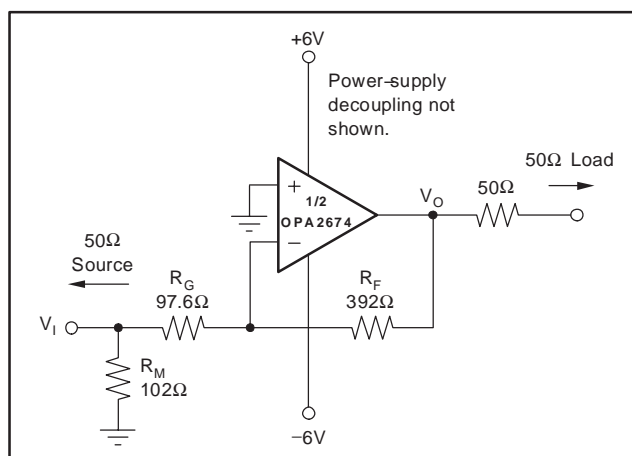

Figure 12. Inverting Gain of -4 with Impedance Matching
As the OPA2674 is a general-purpose, wideband current-feedback op amp, most of the familiar op amp application circuits are available to the designer. Those dual op amp applications that require considerable flexibility in the feedback element (for example, integrators, transimpedance, and some filters) should consider a unity-gain stable, voltage-feedback amplifier such as the OPA2822, because the feedback resistor is the compensation element for a current-feedback op amp. Wideband inverting operation (and especially summing) is particularly suited to the OPA2674. Figure 12 shows a typical inverting configuration where the I/O impedances and signal gain from Figure 1 are retained in an inverting circuit configuration.
The second major consideration is that the signal source impedance becomes part of the noise gain equation and has a slight effect on the bandwidth through Equation 15. The values shown in Figure 12 have accounted for this by slightly decreasing R_F (from the optimum values) to reoptimize the bandwidth for the noise gain of Figure 12 ($NG = 3.98$). In the example of Figure 12, the R_M value combines in parallel with the external 50Ω source impedance, yielding an effective driving impedance of $50\Omega \parallel 102\Omega =$
33.5Ω. This impedance is added in series with R_G for calculating the noise gain—which gives $NG = 3.98$. This value, and the inverting input impedance of 22Ω, are inserted into Equation 16 to get the R_F that appears in Figure 12. Note that the noninverting input in this bipolar supply inverting application is connected directly to ground.
It is often suggested that an additional resistor be connected to ground on the noninverting input to achieve bias current error cancellation at the output. The input bias currents for a current-feedback op amp are not generally matched in either magnitude or polarity. Connecting a resistor to ground on the noninverting input of the OPA2674 in the circuit of Figure 12 actually provides additional gain for that input bias and noise currents, but does not decrease the output DC error because the input bias currents are not matched.